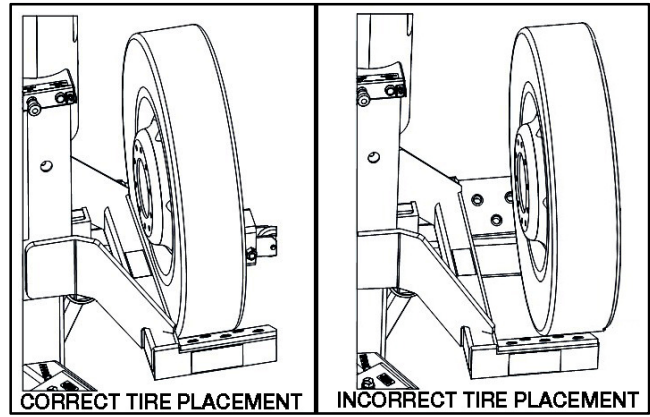

Fig. 5: Position lift table tube against tire
5. Position the lift units so the lift pads cradle the tires at opposite ends of the same axle. Make sure the lift pads cradle the tires evenly and are parallel with the wheel and tire. Position the lift pads under the tire so the lift table tube contacts the tire (see Fig. 5).